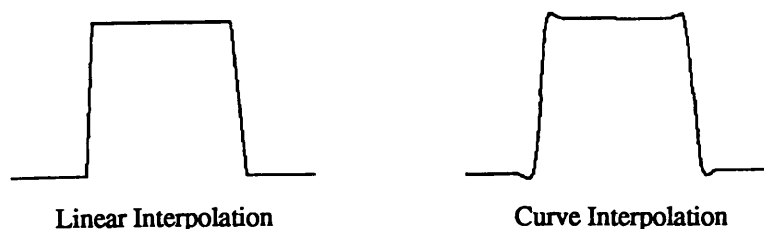

Figure 4-30. Types of Interpolation
This is analogous to a case that a signal waveform is recorded on a strip-chart pen recorder as shown in Figure 4-30. Assuming a recorder as shown in ①, the waveform for the second and further turns of chart drum will be overwritten on the waveform of the first turn. With the Roll Mode of the oscilloscope, it is analogous to that the waveform of the preceding cycle is erased continuously at the point where the fresh data is written. That is, as the newest data arrives at the right hand end of the displayed waveform pattern, the oldest data departs from the left hand end.